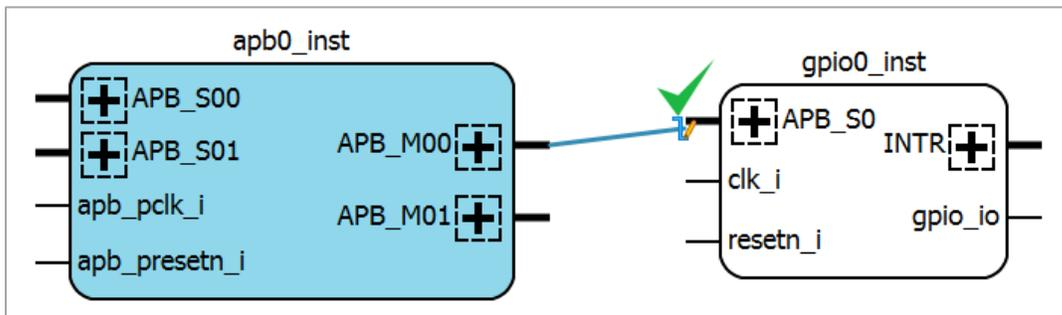
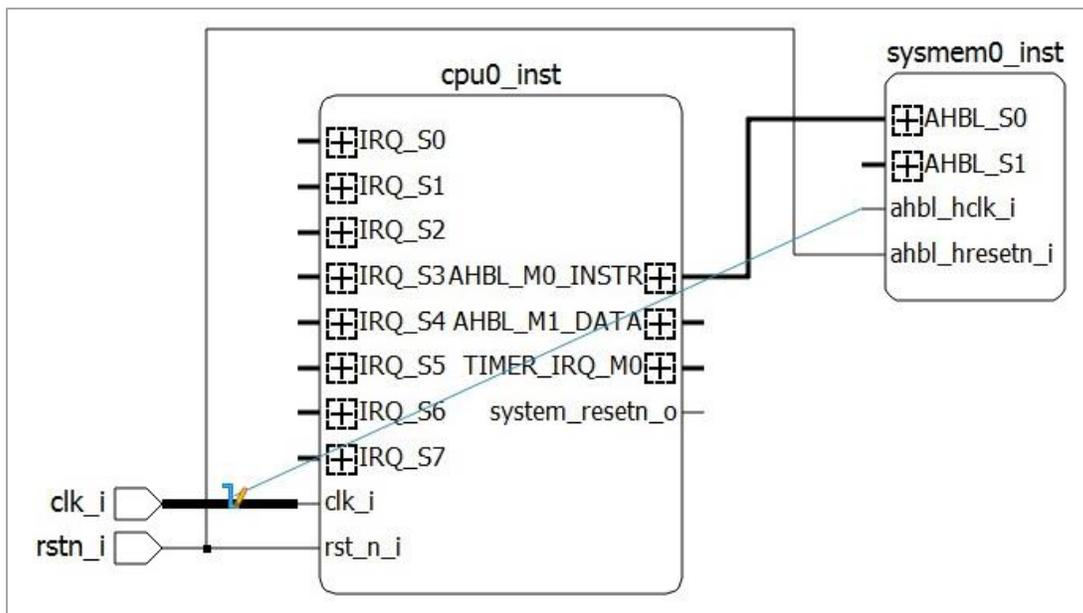

Figure 2.46. Draw a Pin or a Port
Figure 2.47. Draw Nets
1. Move the cursor to a pin or port. The cursor changes to a pencil icon . Click and hold while dragging to another pin, port, or net. An allowed pin or port shows a green checkmark when you hover over it (Figure 2.46). An allowed net becomes bold when you hover over it (Figure 2.47).